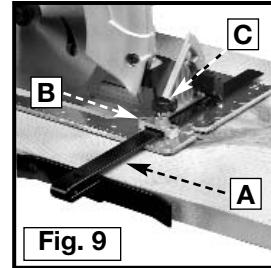

Fig. 9
1. Insert the rip guide (A) Fig. 9 through the slot (B).
2. Place the compression spring on the thumb screw (C) Fig. 9 (supplied with the rip guide), and thread into the hole in the saw base. **DO NOT TIGHTEN.**